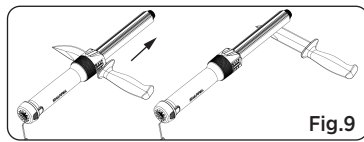

Fig.9
3. Place the heel of the opposite knife blade against the opposite angle guide. Repeat the **PUSHING** stroke the same as Step.2 (See Fig. 9).